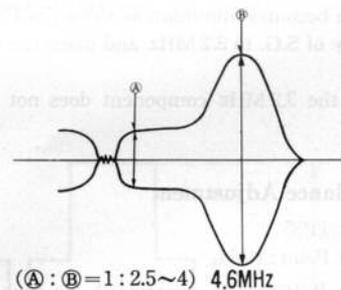

Fig. 20
7. Make sure that the relative gain of peak frequency ② with 1MHz ① becomes  $10 \pm 2$  dB (2.5~4 times) as shown in Fig. 20.